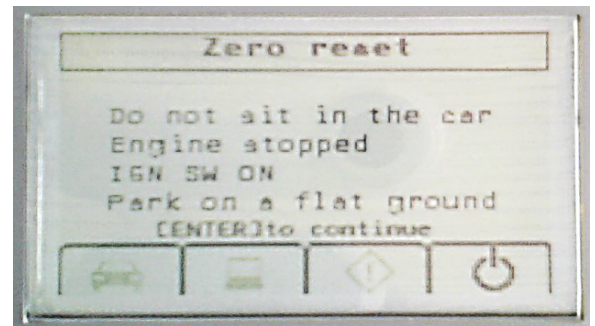

Figure A12
16. When reprogramming is complete, the screen in Figure A12 will display.